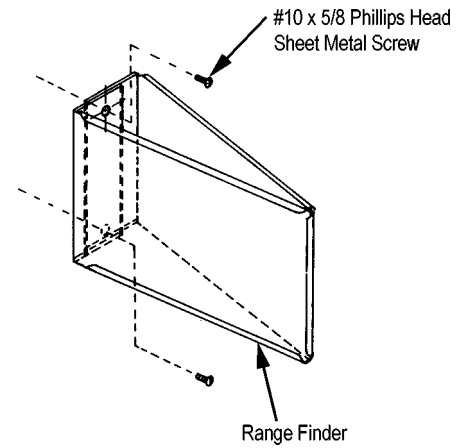

FIGURE 41
1. Install range finder by placing it at the desired location and securing it with two (2) #10 x 5/8 Phillips head sheet metal screws. See Figure 41.